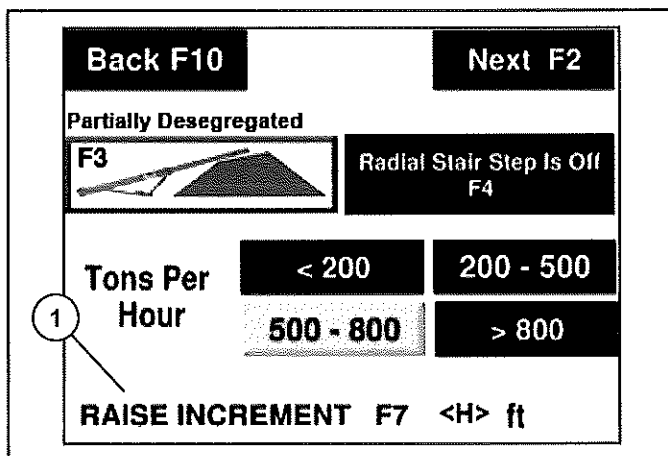

Figure 61
5. Press screen Raise Increment (Item 1) (Figure 61) or [F7].